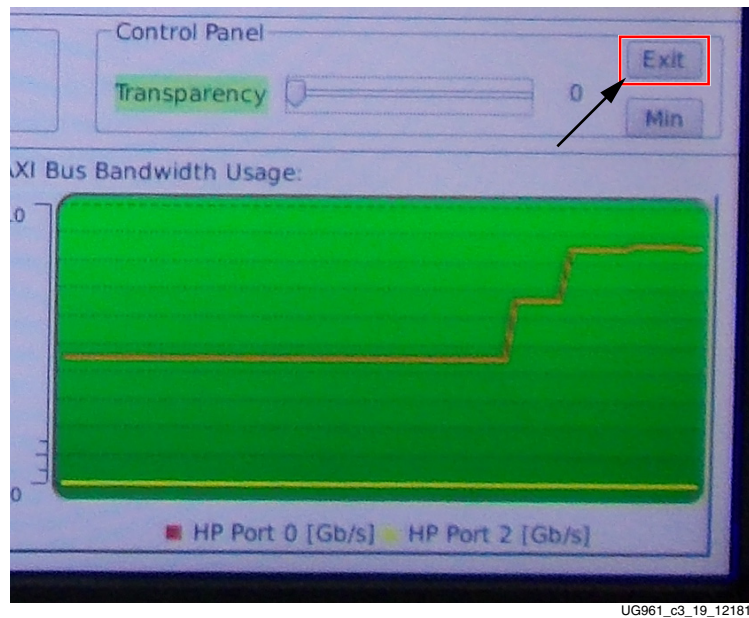

Figure 3-23: Exiting the Qt GUI
17. Exit the Qt GUI by clicking the **Exit** button in the GUI as shown in Figure 3-23.